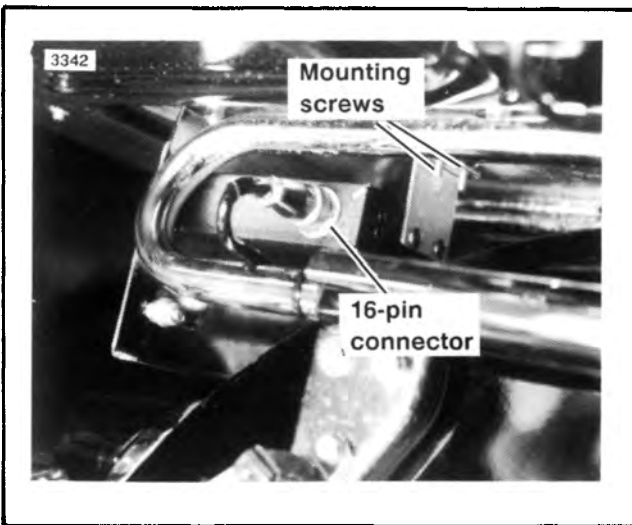

Figure 8-47. Transceiver Mounting
6. Connector ring on 16-pin CB cable	See Figure 8-47. Tighten 16-pin connector ring.